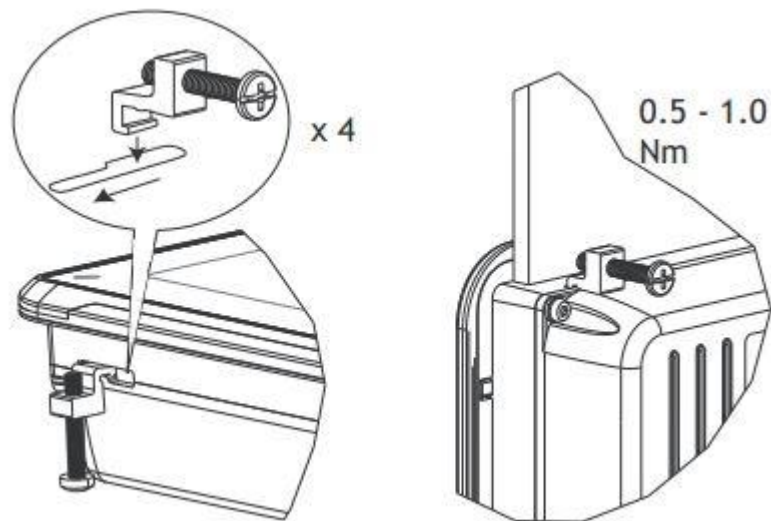

Figure 3: Mounting the operator panel
3. Secure the operator panel in position using the brackets and screws provided, as shown in Figure 3.